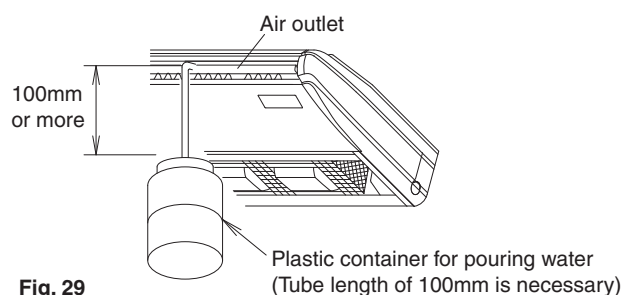

Fig. 29
(2) After piping is finished, check if the drain flows smoothly.
- Gradually put about 0.6 liter of water for drain confirmation into the drain pan from the air outlet. (Refer to Fig. 29)